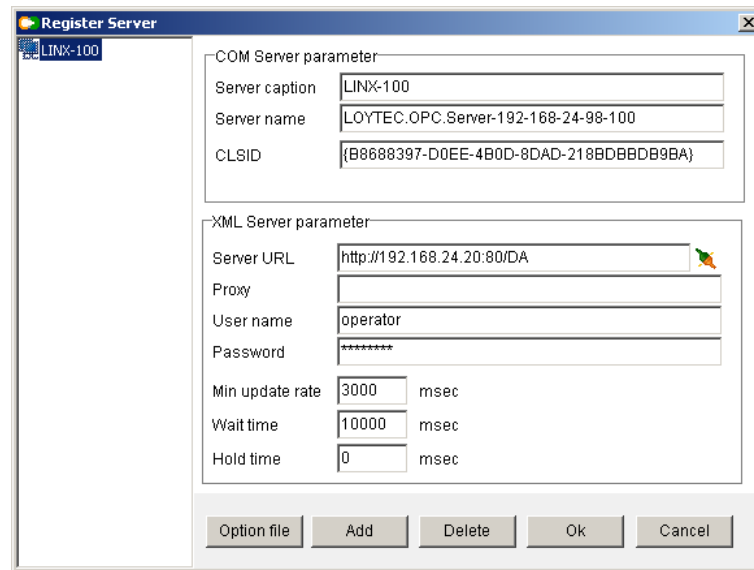

Figure 150: Register Server dialog in the bridge software
5. A new server entry is added. Enter the information on **Server caption** (this is displayed), **Server name** (this is the COM object name), and the **Server URL** (the URL of the LOYTEC device) as shown in Figure 150.